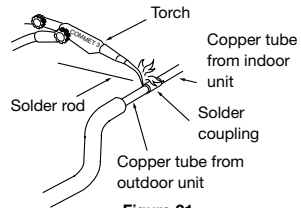

Figure 21
- To braze the copper tube, before brazing a copper tube to a solder coupling or a copper tube to an expanded tube, do not forget to keep them tight as shown in Figure 21, 22.